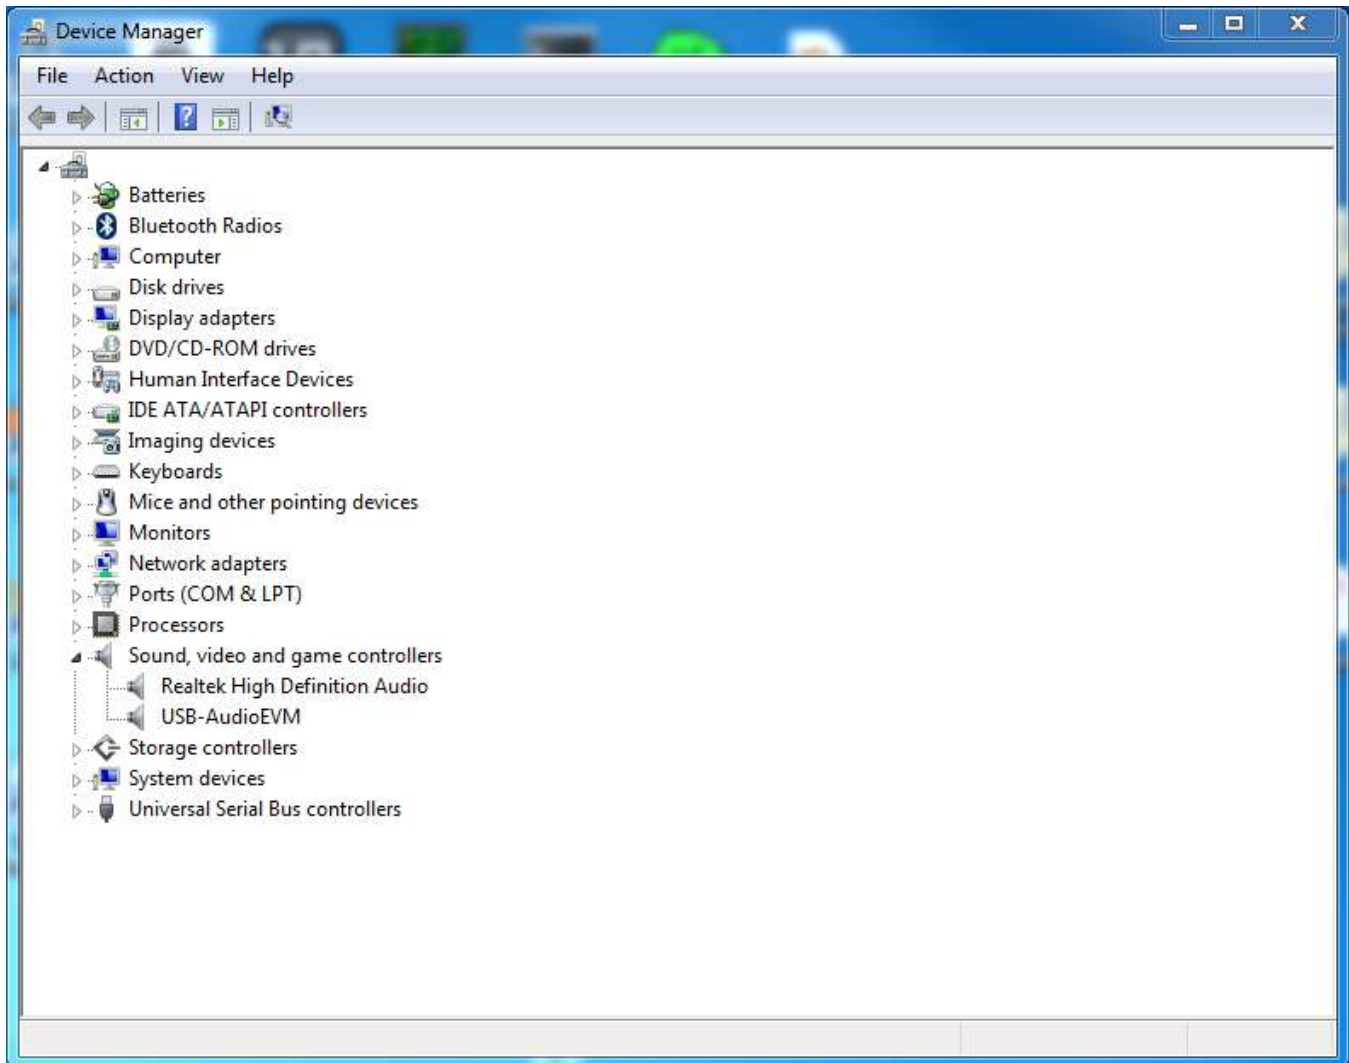

Figure 2. Device Manager
Upon power-on, the PPCMB uses USB audio input (default). The I²S signals LRCLK, SCLK, SDIN and MCLK come from the TAS1020B. foobar2000 or similar non-processing media source can be used to stream audio. The TAS1020B enumerates as the following device on a Microsoft® Windows® operating system (OS): USB audio (USB-AudioEVM), Human Interface Devices, and USB Composite Device, see Figure 2.